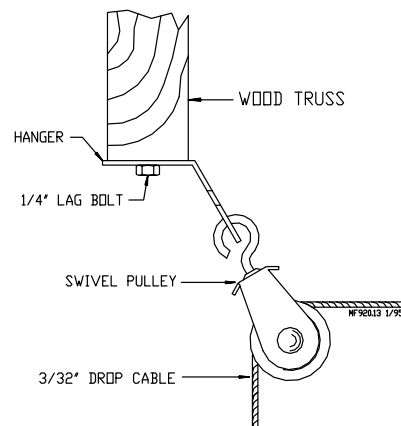

Figure 16. Pulley Installation
6. After securing the ceiling hook to the truss, slide the hook of a swivel pulley into the slot, as shown in **Figure 16**.